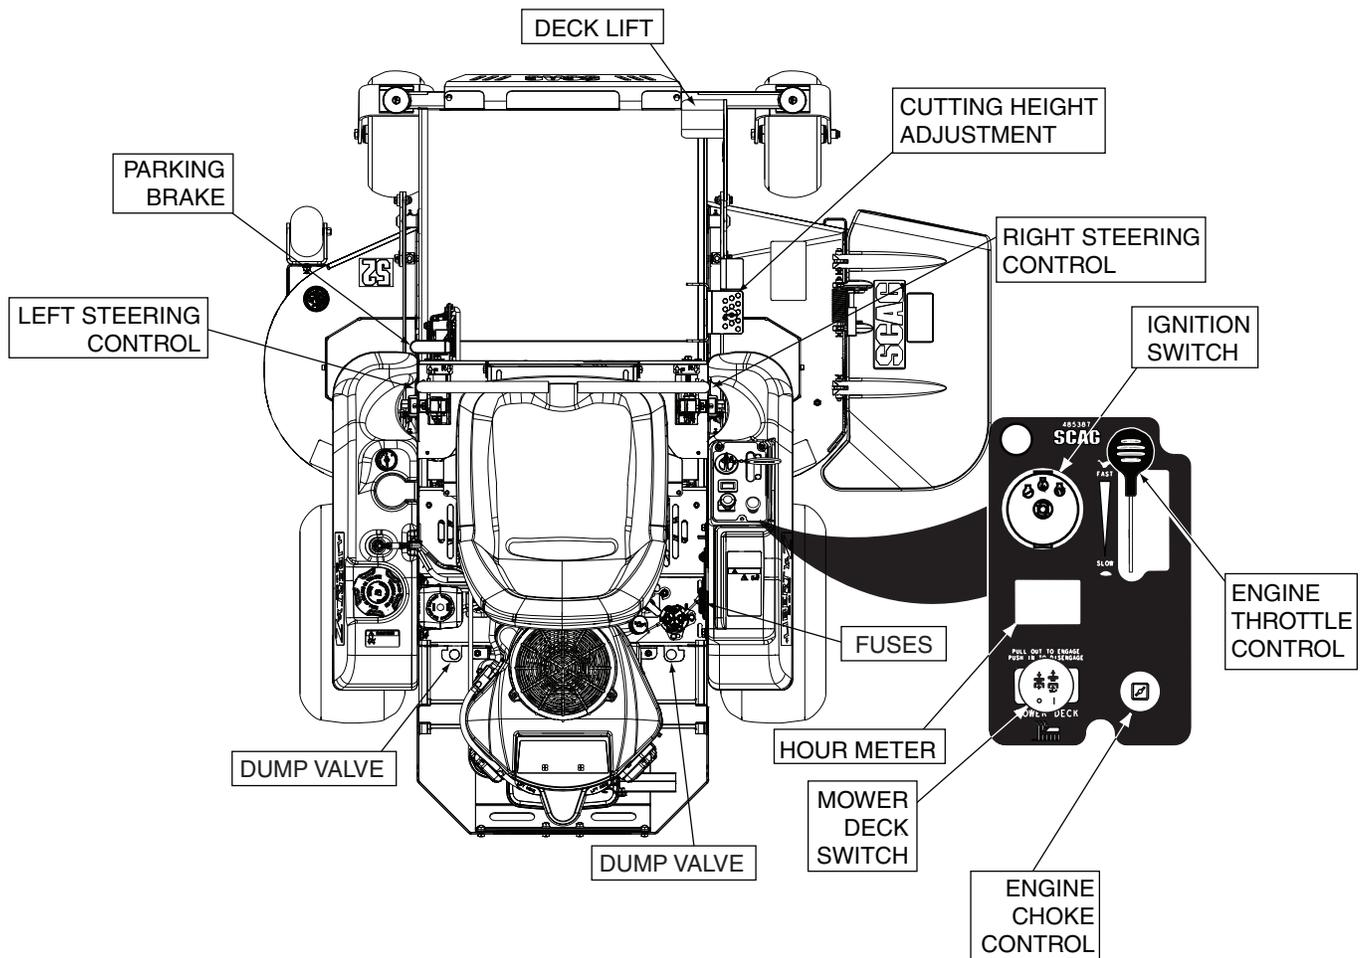

Figure 4-1. Controls and Instruments
1. **Ignition Switch (Figure 4-1).** The ignition switch is used to start the engine and has three positions; OFF, ON, and START.
2. **Mower Deck Switch (Figure 4-1).** Used to engage and disengage the mower drive system. Pulling up on the switch will engage the deck drive. Pushing down on the switch will disengage the deck drive.
3. **Engine Choke Control (Figure 4-1).** Used to start a cold engine.
4. **Engine Throttle Control (Figure 4-1).** Used to control the engine speed. Pushing the lever forward increases engine speed. Pulling the lever back decreases engine speed. Full back position is the IDLE position. Full forward is the cutting position.
5. **Hourmeter (Figure 4-1).** Indicates the number of hours the engine has been operated. It operates whenever the ignition key switch is in the ON position. Has preset maintenance reminders for engine and hydraulic system oil changes. Will start flashing scheduled maintenance 2 hours before preset time and continue flashing until 2 hours after. Automatically resets.
6. **Fuse Holders (Figure 4-1).** Two 20-amp fuses protect the mower's electrical system. To replace fuses, pull fuse out of the socket and install a new fuse.
7. **Left Steering Control (Figure 4-1).** Used to control the mower's left wheel when traveling forward or reverse.
8. **Right Steering Control (Figure 4-1).** Used to control the mower's right wheel when traveling forward or reverse.
9. **Parking Brake Control (Figure 4-1).** Used to engage and disengage the parking brakes. Pull the lever back to engage the parking brakes. Push the lever forward to disengage the parking brakes.
11. **Deck Lift Foot Lever (Figure 4-1).** Used to raise and lower the cutter deck.
12. **Cutting Height Adjustment (Figure 4-1).** Used to set the cutter deck at the desired cutting height.
Do not travel forward over a curb. The mower will hang up on the curb. Raise the deck and travel backwards over the curb at a 45 degree angle. (See Figure 4-1 and Section 4-1 item 11 for cutter deck raising description.)